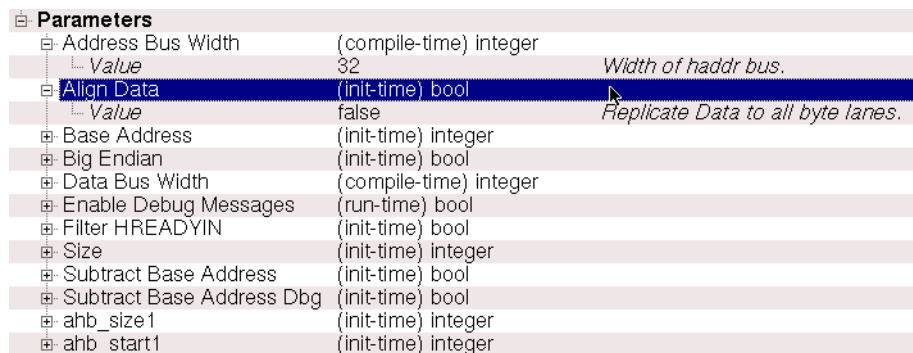

Figure 4-24 SoC Designer Component Transactor Parameters
- Under the transactor, click the plus sign next to *Parameters* to display the full list of parameters. Then click the plus sign next to the selected parameter to display the Value field (Figure 4-24).